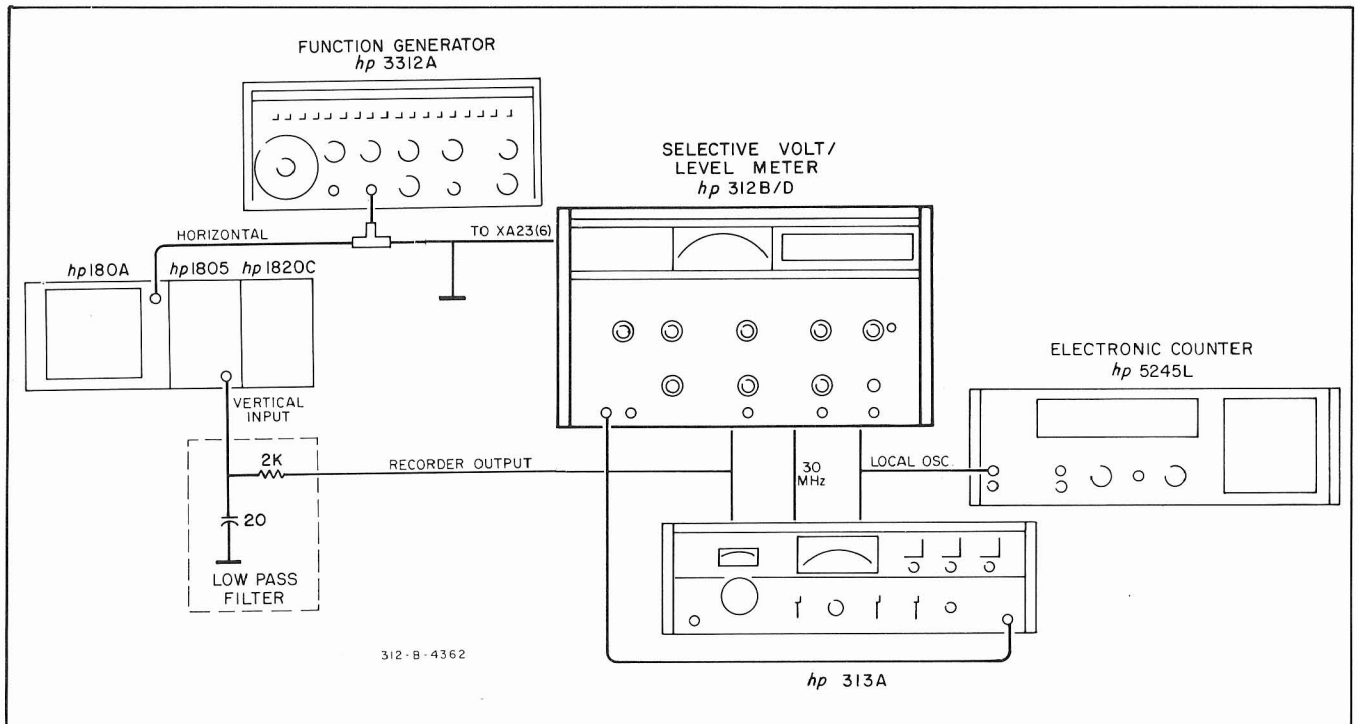

Figure 5-13. Frequency Response – A33 Adj. – 312B/D.
a. Remove A23 from the 312B/D. Connect the equipment as shown in Figure 5-13.
- a. Set up the equipment as shown in Figure 5-13.